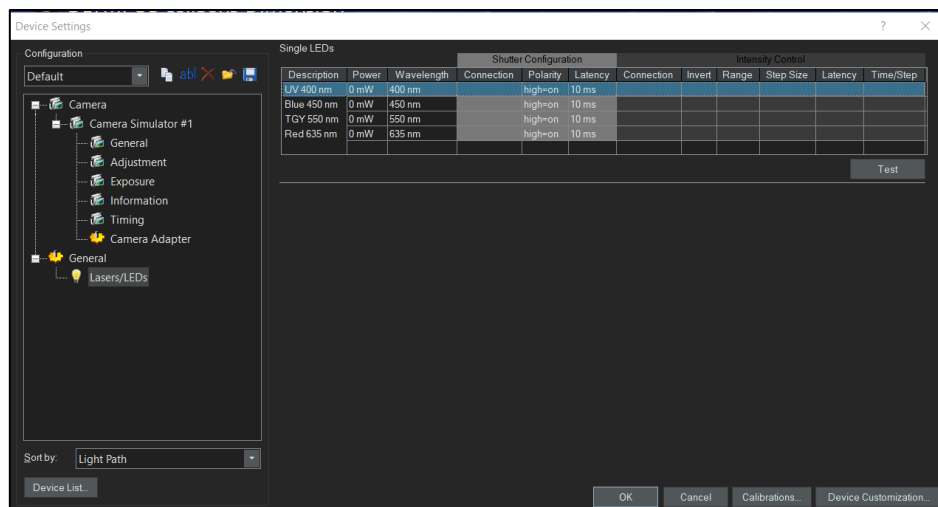

Figure 5: 'Device Settings' page is useful for testing LED illumination by clicking 'Test'
5. Ensure 'Polarity' is set to 'high=on' and 'Latency' is set to '10 ms', which should be the default settings (Figure 5). Latency can later be reduced to increase imaging speed.
Note: If faster imaging speeds are required, latency can be reduced in Device Settings (Figure 5).
- In cellSens, from the Start Page, select 'Device Settings' (Figure 5).